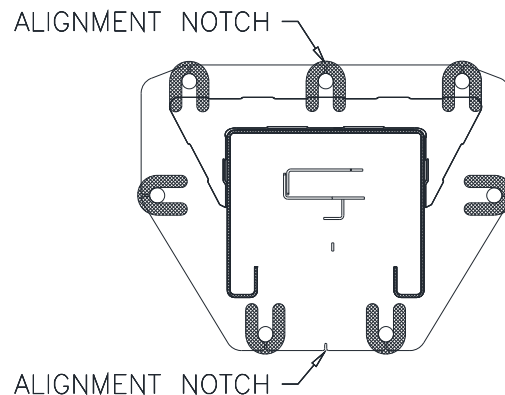

Fig. 7 – Column Shimming
- 15) Repeat steps 10 thru 12 for the two (2) anchors under each carriage.
- 16) Shim both columns to plumb using the shims provided as shown in **Fig. 7**. DO NOT shim more than 1/2" at any given point. Use a level no less than 24" in length to plumb columns.
- 21) Check idler column shimming. Use additional shims (**see Fig. 7**) to remove any gaps that may have been created while installing overhead beam. Tighten anchor bolts and re-check column for plumb. Torque to 150 foot-pounds.